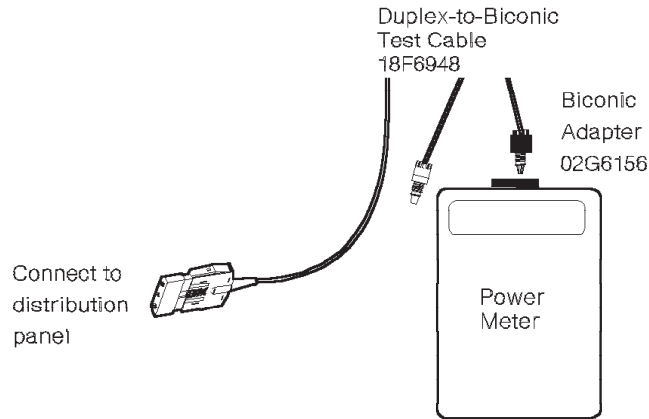
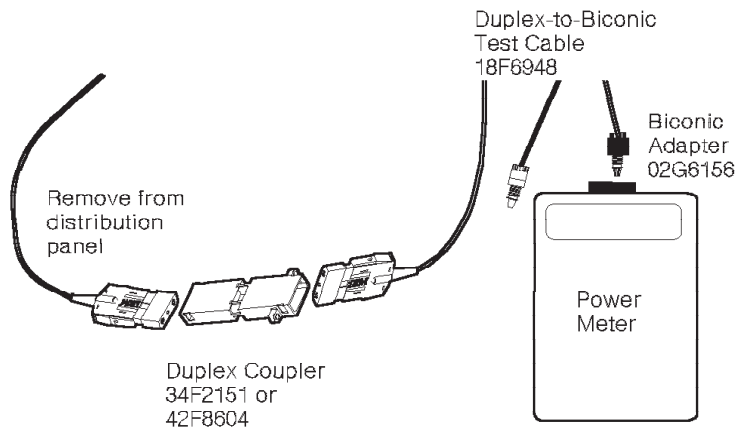
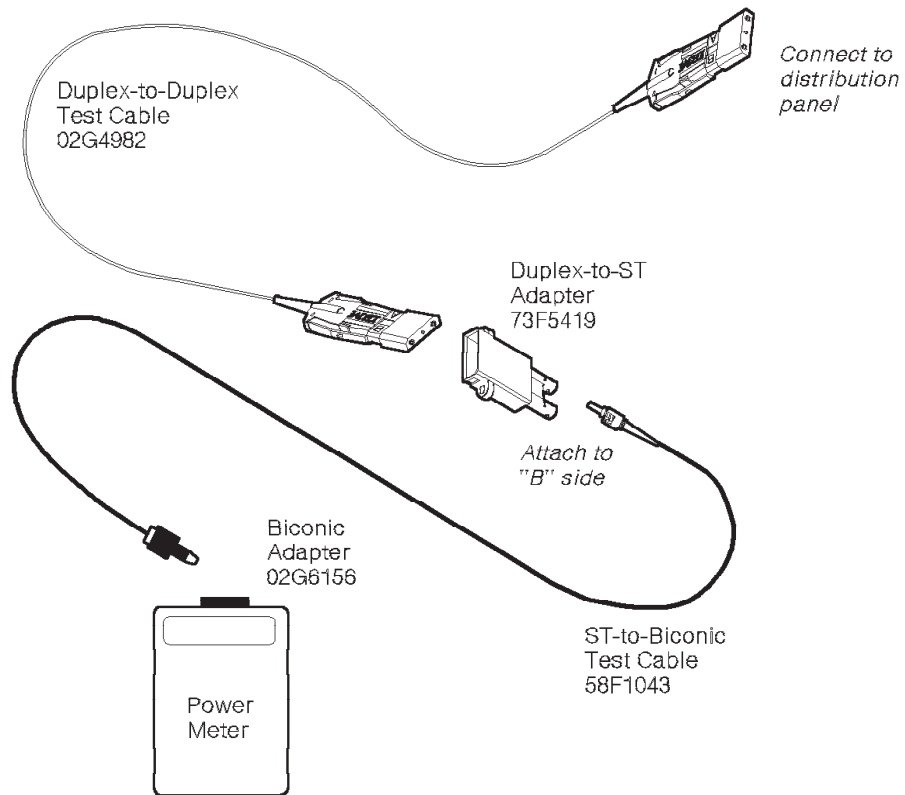
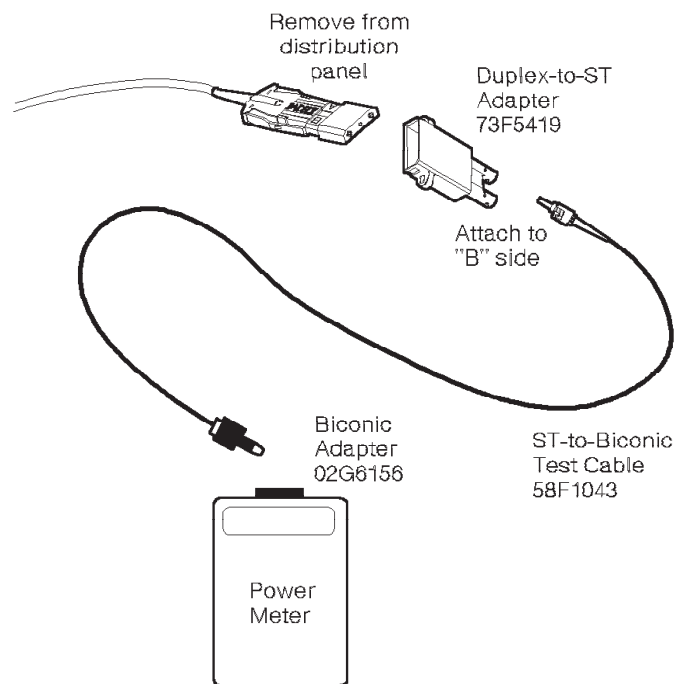

Figure 3-1. Measuring **C2** or **D1** for a Multimode Link
Figure 3-2. Measuring **C1** or **D2** for a Multimode Link
Figure 3-3. Measuring **C2** or **D1** for a Single-Mode Link
Figure 3-4. Measuring **C1** or **D2** for a Single-Mode Link
- Multimode links—See Figure 3-1 and Figure 3-2 on page 3-23.
- Single-mode links—See Figure 3-3 and Figure 3-4 on page 3-24.
- 1) Take measurements at **C2** and **D2** . Measure **C2** at the distribution panel, and measure **D2** at the jumper 2 connector (removed from the distribution panel). See Figure 3-1 and Figure 3-2 on page 3-23 for multimode links; see Figure 3-3 and Figure 3-4 on page 3-24 for single-mode links.